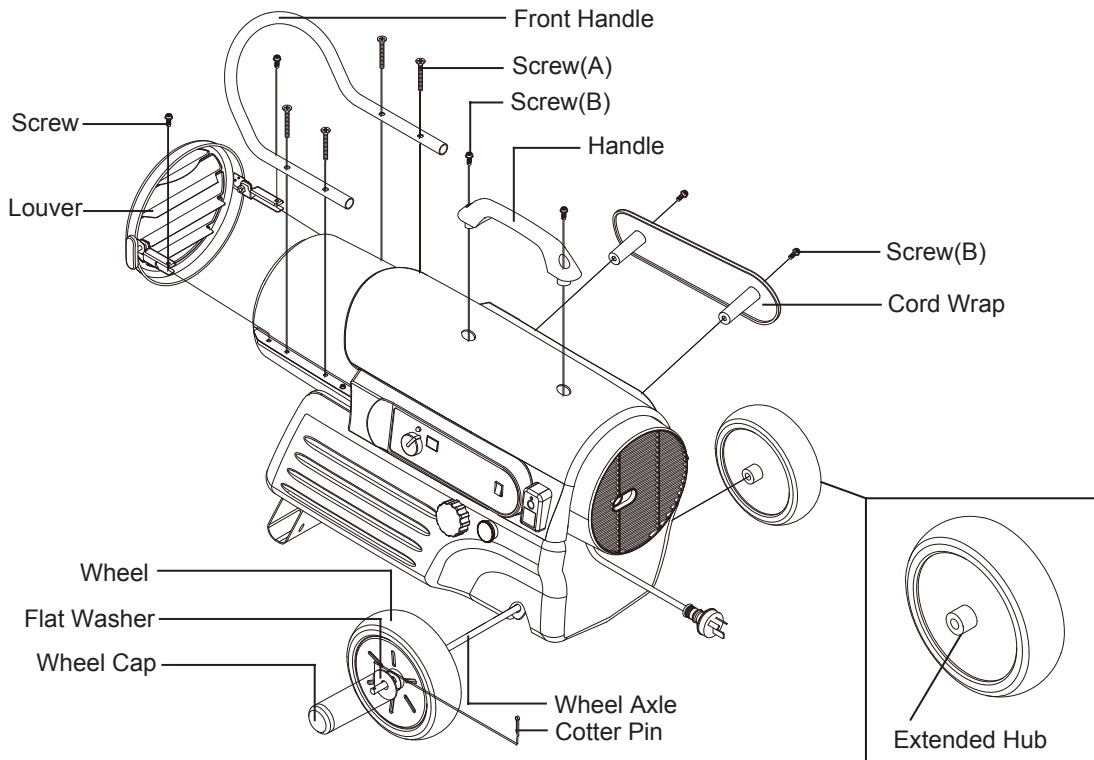

Figure 8. Wheel and Handle Assembly, IH125000/IH170000 Models Only
- 1) Slide one Wheel over the Wheel Axle, making sure that the extended hub of the wheel points towards the wheel points towards the Wheel Support (See Figure 8, page 6).
- 6) Fit bracket-right & left to each side flange of upper shell and align each hole on the brackets with the hole on the flanges (See Figure 8, Page 6).